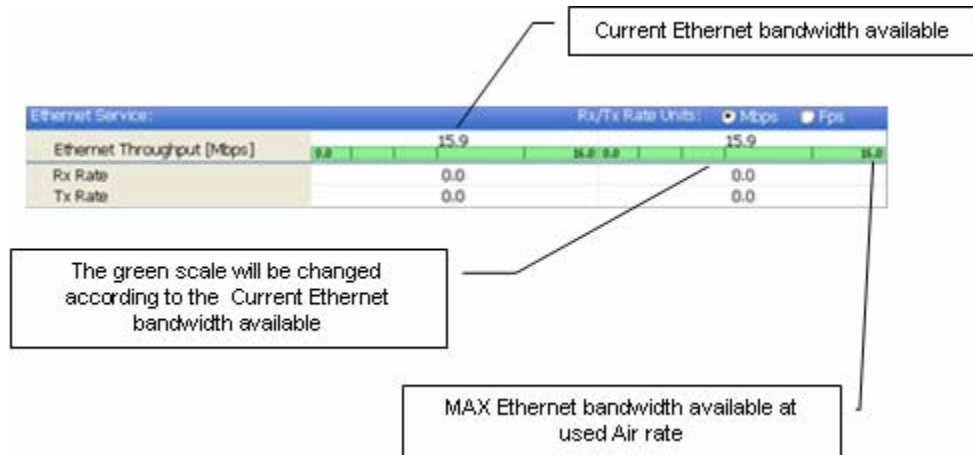

Figure 3-5. Ethernet Bandwidth Indication
- Current Ethernet bandwidth in Mbps. This is not the actual traffic rate, but the maximum capacity that can be supported currently, see Figure 3-5. The scale on the bar adjusts according the link distance and the link budget.